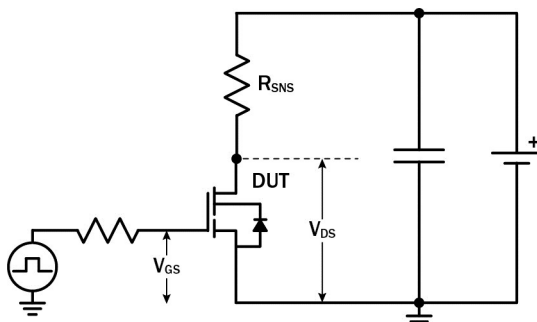

Figure 14. Dynamic $R_{DS(on)eff}$ Test Circuit
- Reflects both static and dynamic on-resistance; dynamic on-resistance test setup and waveform; see Figures 14 and 15 for conditions